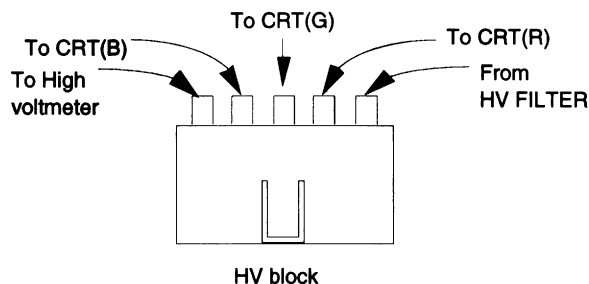

Fig. 1
- (1) Remove the PA board from the unit, and connect the extension board.
- (2) Connect the cable from the high voltage meter to the chassis and HV block. (Refer to Fig. 1.)
(See Fig. 1)